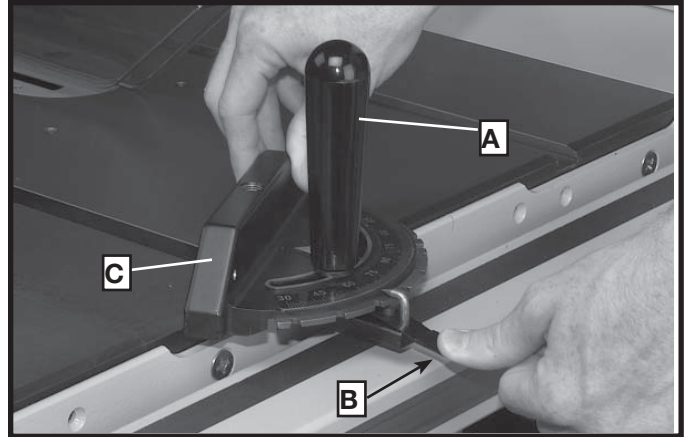

Fig. 63
To rotate the miter gauge, loosen lock knob (A) Fig. 63, push the thumb lever (B) down and move the body of the miter gauge (C) to the desired angle.